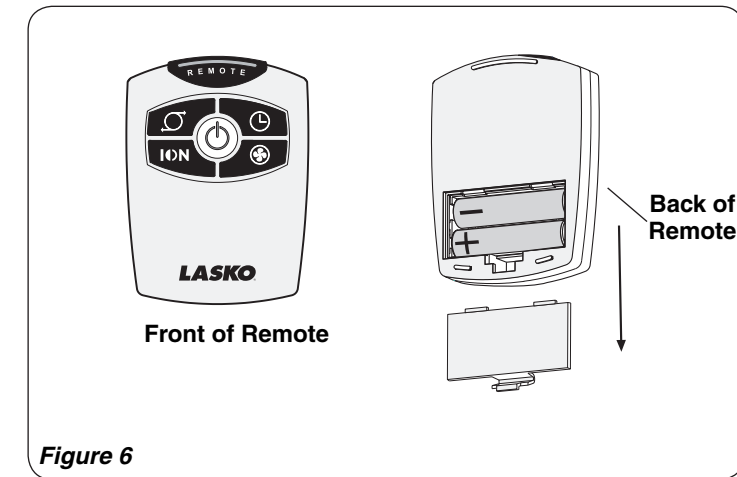

Figure 6
This Fan may be operated by the Manual Controls located on top of the unit (as shown in **Figure 5**) or by the Remote Control (shown in **Figure 6**).
REMOTE CONTROL (Figure 6)
1. Install the two “AAA” batteries supplied as shown in *Figure 6*.